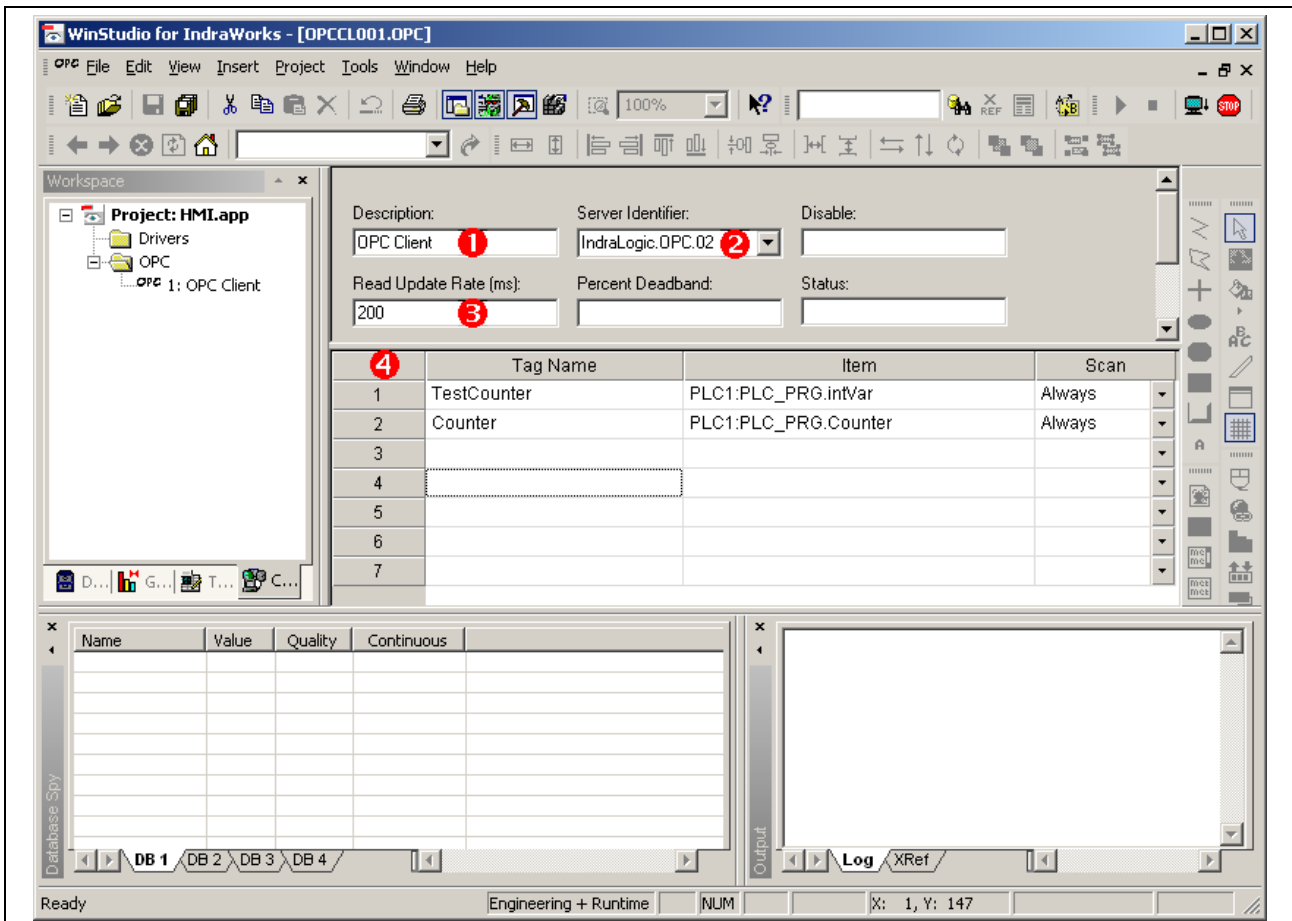

Fig. 3-49: Configuration of the WinStudio OPC client
- Fig. 3-49: Configuration of the WinStudio OPC client 3-46